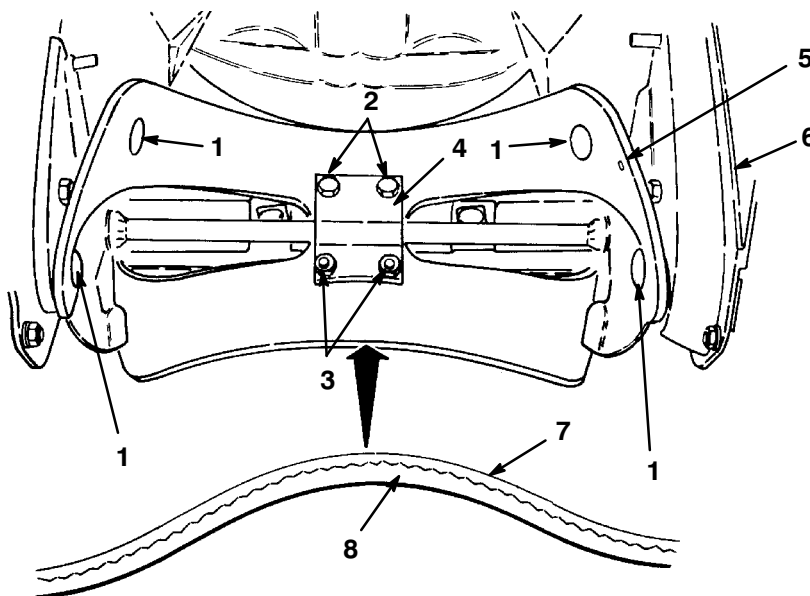

Figure 15
1. Remove four torx screws, two cap screws, and six locknuts that secure the blade to the rotor shaft assembly (Fig. 15).
- Slide the blade out from between the blade supports (Fig. 15).
- Examine a new rotor blade edge for the difference in layer thickness (Fig. 15). Some rotor blades have a part number on the thick side of the blade.
Install the rotor blades with the thick layer on the **inside** of the curve. (Fig. 15). If you do not install the blades properly, the blades may be out of balance and cause the snowthrower to “hop” or “bounce.”
- Position the screw heads on the thick layer side of the blade (Fig. 15).
- Curve the blade and secure it with the remaining four torx screws and locknuts, positioning the screw heads on the thick layer side of the blade (Fig. 15).